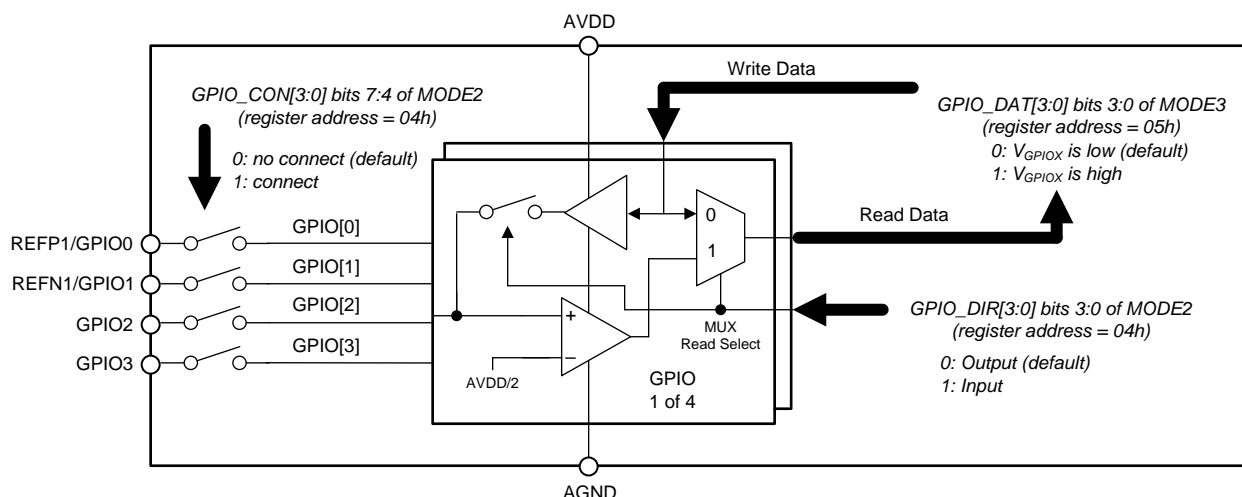

Figure 64. GPIO Block Diagram
The ADC provides four GPIO pins (GPIO0 through GPIO4). The GPIO are digital inputs and outputs with logic values that are read and written by the GPIO_DAT bits of the **MODE3** register. Two GPIOs are available on dedicated pins and two GPIOs are multiplexed functions with an external reference (REFP1 and REFN1). The GPIO input and output levels are referred to AVDD and AGND. As **Figure 64** shows, the input threshold value is $AVDD / 2$ (typical). The GPIO_CON[3:0] bits set the GPIO connection to the designated pin (1 = connected). The GPIO_DIR bits program the direction of the GPIO as an input (1) or output (0). The GPIO_DAT[3:0] bits are the data values for the GPIO. If a GPIO pin is programmed as an output, the value read is the register data previously written.